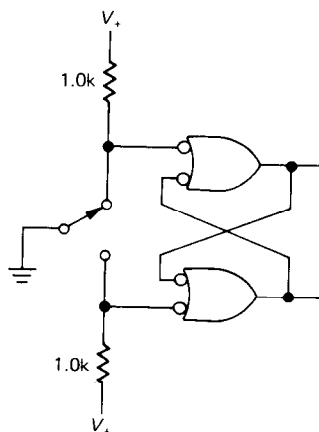

Figure 9.8. Switch debouncer: *SR* flip-flop.
1. Use a pair of gates to make a jam-type *SR* flip-flop. Use pullups at the inputs to the debouncer, of course (Fig. 9.8). You could use a flip-flop with SET and CLEAR inputs instead (e.g., a '74); in that case, ground the clocking input.